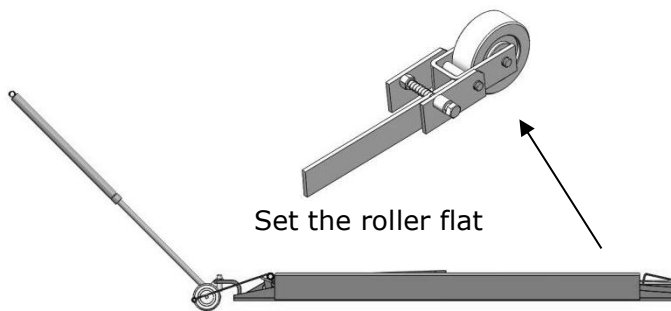

Fig.24
4. Move the lift: uplift roller and stick it on the shaft, use telescoping dolly to pry up the lift machine to move. See fig 24, 25.